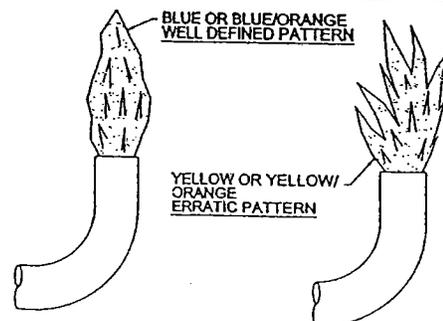

Figure 11
- Main Burner:** Do not allow the burner to burn with a yellow flame, because sooting will occur. (See Safety Warnings). If the burner flame is yellow and has an erratic pattern, shut unit down and contact a qualified service agency. Do not continue operating unit with improper burner flame. (See Figure 11 for correct and incorrect burner flame appearance.)